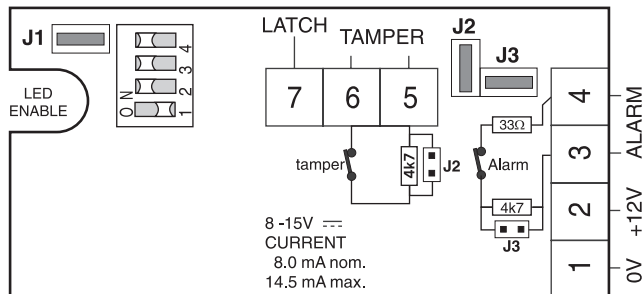

Fig. 2. Connection data
7. Enable the LED indication by removing jumper J1 (fig. 2).